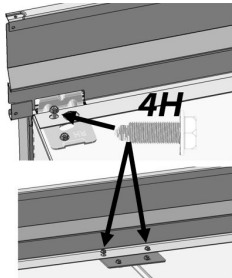
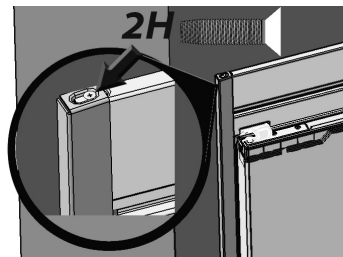

Fig. 21
Fig. 23
22. a. Remove the front outer hinge screws, common on both sides of the dual installation, as well as the front two 4H screws that fasten the 1H Tie Bar (Fig. 21).
- c. Install the top trim by fastening four 4H screws along the base of the trim with a $\frac{5}{16}$ " socket wrench (Fig. 21).
24. a. Place side trims in position by dropping them over the placement screw as seen in Fig. 21 and fitting over the top trim (Fig. 23).